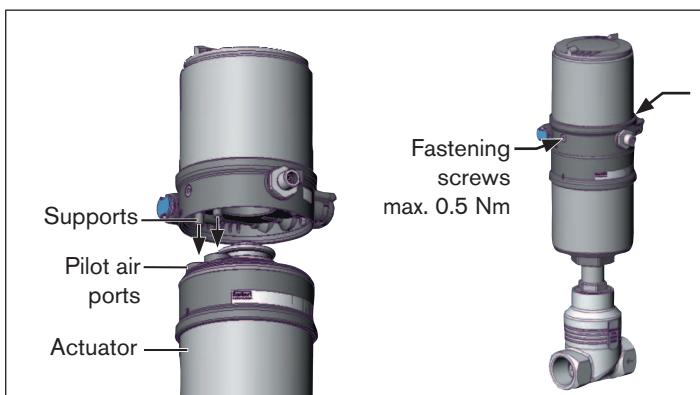

Fig. 5: Aligning the puck holder, series 2103, 2300 and 2301
2. the supports of the positioner can be inserted into the pilot air ports of the actuator (see also "Fig. 5").